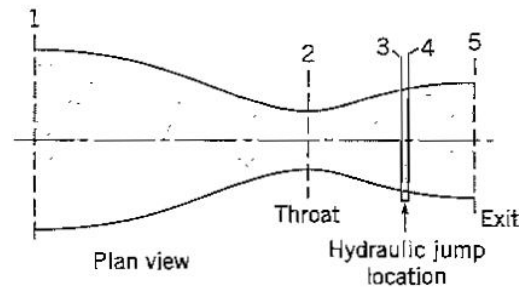

Figure P10.45
10.45 Consider the steady open channel flow of water in the smooth constriction shown in the plan view in Figure P10.45. At position 1, the depth is Y_1 and the width is B_1 . You may assume that B_1 is much larger than either B_2 or B_3 , the widths of the channel at positions 2 and 3, respectively. A hydraulic jump is observed between positions 3 and 4 where the upstream depth $Y_3 = Y_1/3$. You may assume one-dimensional flow, and that $F_1 < 1$.